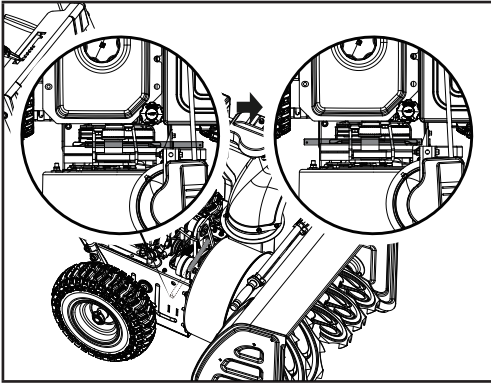

Figure 30
11. Reassemble the support rod by pushing back into place and ensure that it is properly engaged into the friction disc assembly and replace the washer and clip (Fig. 30).